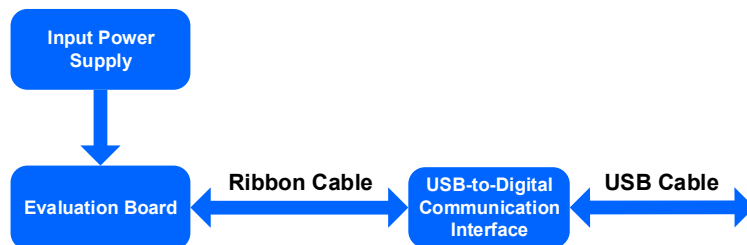

Figure 1: Digital Interface Evaluation Kit Set-Up
7. To use the enable (EN) function, apply a digital input to the EN pin. Drive EN above 1.2V to turn the regulator on; drive EN below 1.1V to turn it off. If the enable function is not used, EN can be connected to VIN through two resistor dividers. Ensure that the EN voltage (V_{EN}) does not exceed 4V.
- d. Evaluate the device with the MPQ2288's GUI, such as the PG delay time and switching frequency. Figure 1 shows the digital interface evaluation kit set-up.